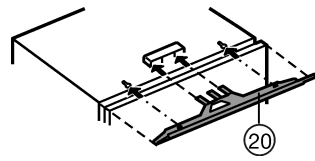

Fig. 8
- ▶ Fit the equaliser trim *Fig. 8 (20)* concentrically onto the appliance: Slide it into the recess and engage it in the keyholes.